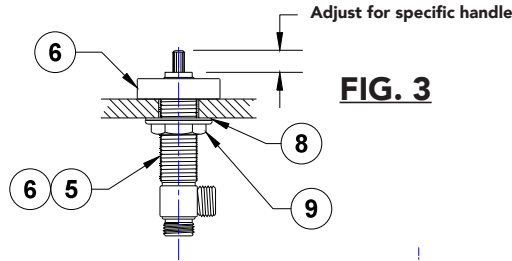

FIG. 3
2. Remove nut (13) and washer (12) from spout.
3. Drop spout (2) in from top of counter.
4. Install washer (12) and nut (13) from bottom of counter and tighten.
5. Install "T" (14) with suitable pipe sealant.
6. Install hot and cold valve assemblies (5)(6) from bottom of counter. Install valve escutcheon (4) **Fig.3** on valve assemblies. Adjust valve assemblies per **Fig. 3**, tighten nut (9) on each valve assembly
7. Install hot and cold hoses (10) from "T" to each valve assembly.